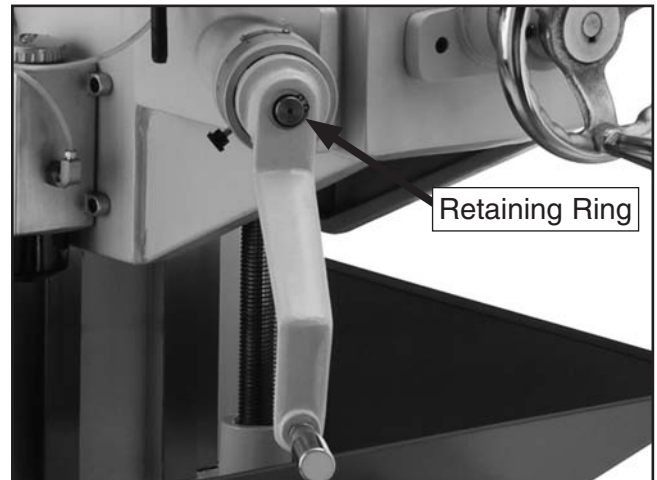

Figure 13. Vertical crank handle properly installed.
2. Remove the retaining ring from the end of the vertical crank screw, install the crank handle, then re-install the retaining ring, as shown in **Figure 13**.